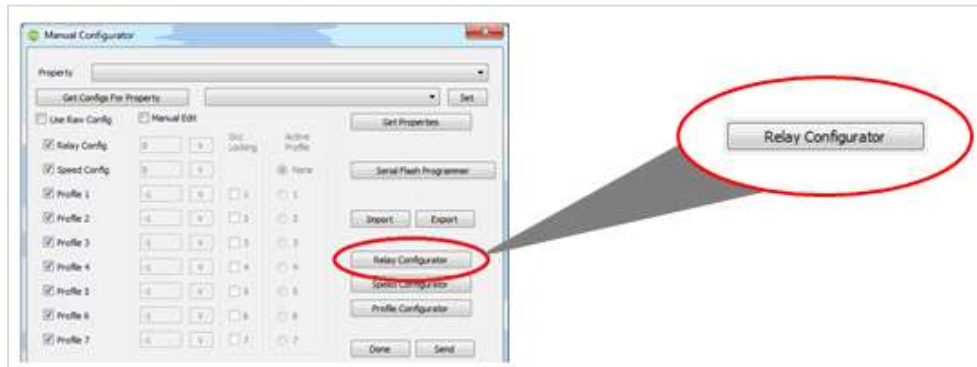

Figure 6
- Click the **Relay Configurator** button (Figure 6).